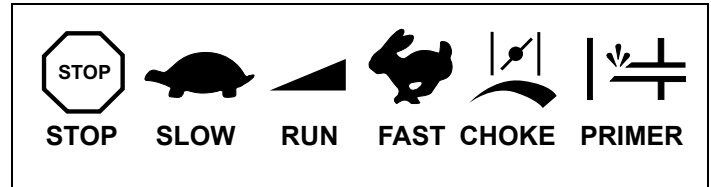

Figure 26. Typical Engine Symbols
3. Move engine speed control to "FAST" position. See Figures 26 and 27.
- c. Finally, move engine speed control to desired speed in "RUN" range. See Figures 26 and 27 on page 13. Afterward, continue reading instructions below.